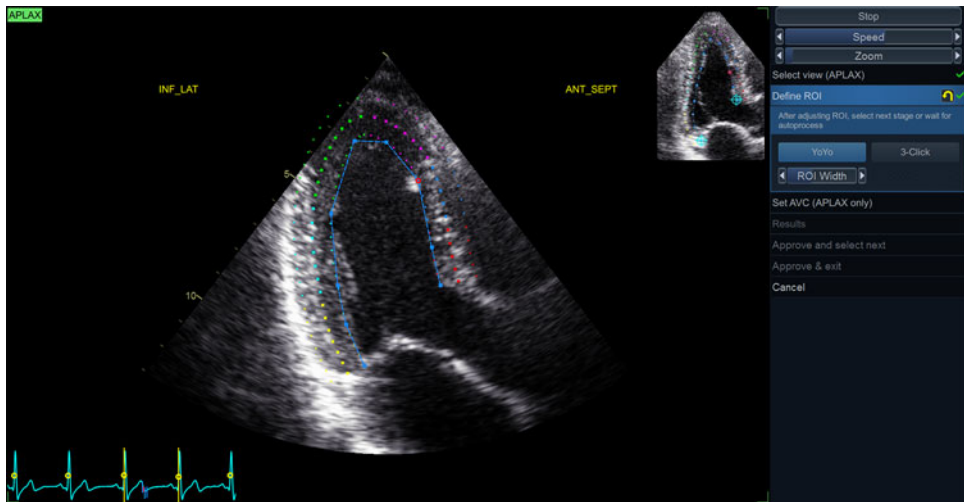

Figure 8-10. Define ROI stage
2. An automatic ROI is generated when entering the Define ROI stage, see Figure 8-10. The ROI may be edited by clicking and dragging on the endocardial and epicardial contours. See 'ROI adjustment' on page 8-25 for more information.